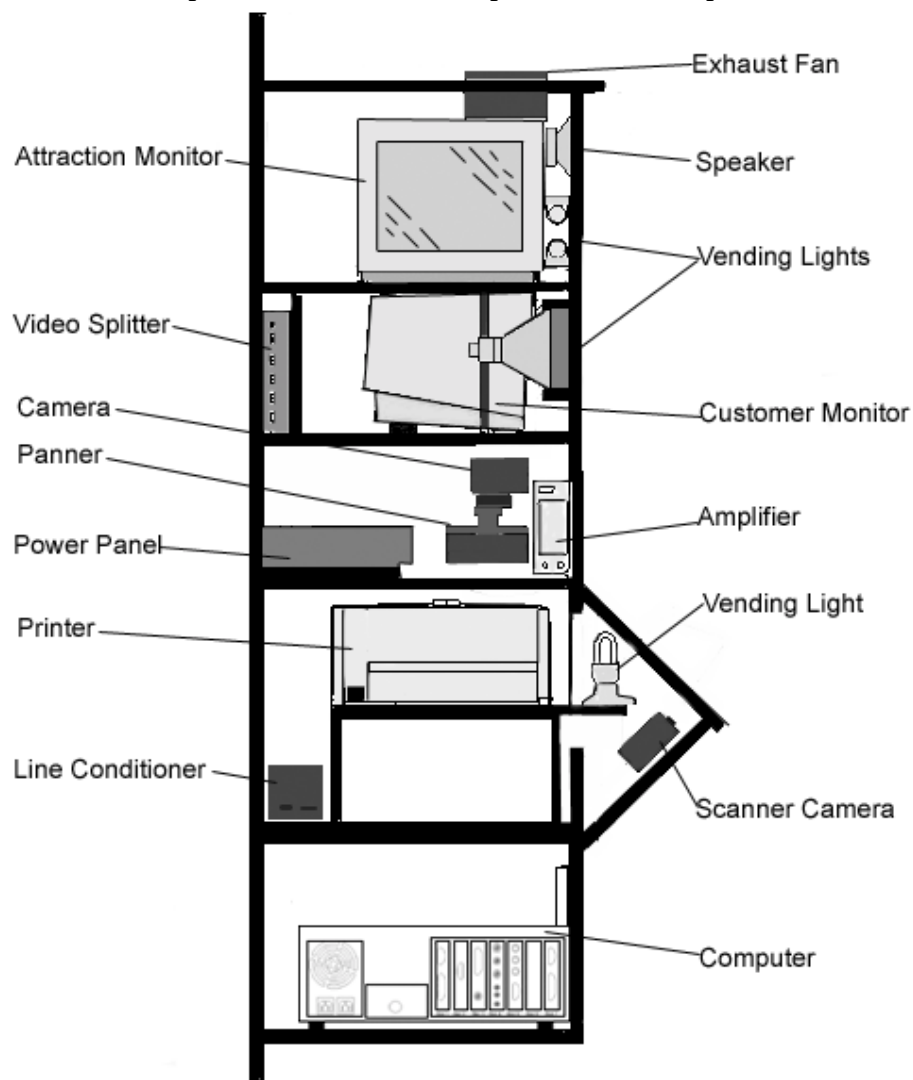

Figure 1. Left Side of Portrait Studio™ Kiosk Without the Side Door Assembly
Figure 1 is a sectional example of the basic internal parts that make up the Portrait Studio™ Kiosk.
1. The customer inserts the correct type and amount of currency into the currency acceptor, which could be for a coin or bill acceptor. Figure 1 shows the location of the currency acceptor. The customer lights power on and the kiosk becomes active. The system prompts the customer to select one language out of several choices.